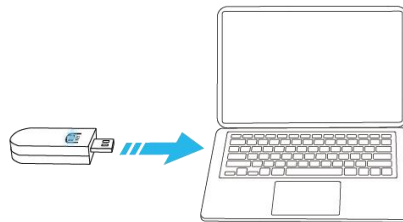

Figure 4.4 Install Bluetooth dongle
**Step 1** Connect Bluetooth dongle to the USB interface of the computer, as shown in Figure 4.4.